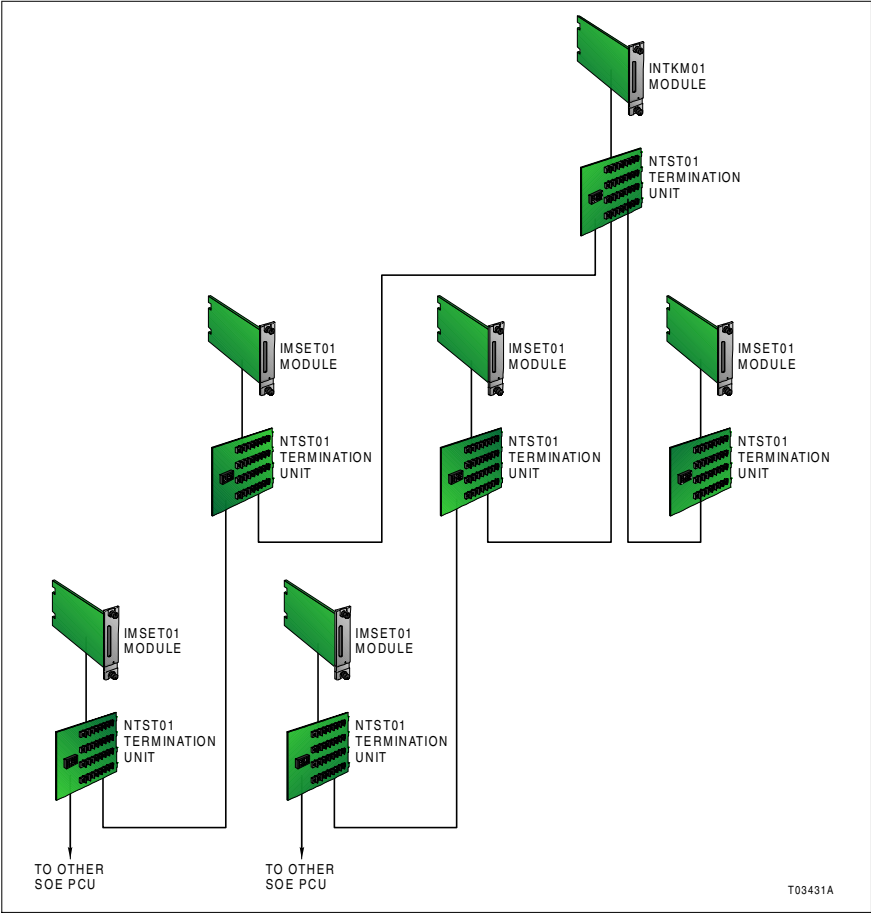

Figure 2-6. Star Time-Sync Link Connection
- Star mode - In this scheme a faulty NTST01 unit breaks the transmission of the time information to all downstream nodes (Fig. 2-6).